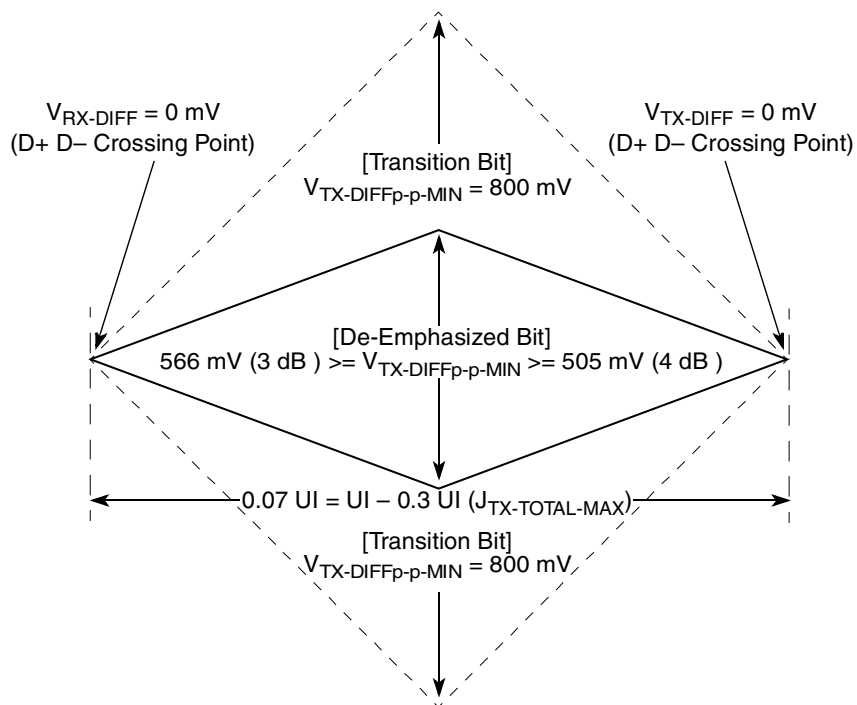
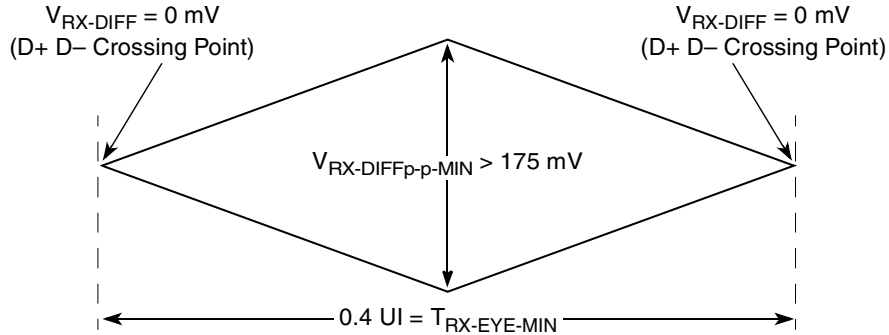
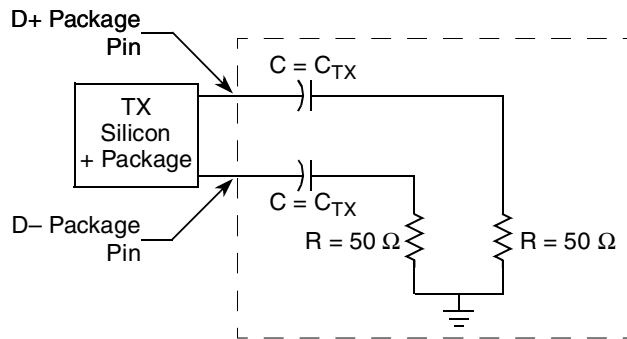

Figure 41. Minimum Transmitter Timing and Voltage Output Compliance Specifications
Figure 42. Minimum Receiver Eye Timing and Voltage Compliance Specification
Figure 43. Compliance Test/Measurement Load
- 2.) Specified at the measurement point into a timing and voltage compliance test load as shown in Figure 43 and measured over any 250 consecutive TX UIs. (Also refer to the transmitter compliance eye diagram shown in Figure 41.)
- 4.) The transmitter input impedance shall result in a differential return loss greater than or equal to 12 dB and a common mode return loss greater than or equal to 6 dB over a frequency range of 50 MHz to 1.25 GHz. This input impedance requirement applies to all valid input levels. The reference impedance for return loss measurements is 50 Ω to ground for both the D+ and D– line (that is, as measured by a vector network analyzer with 50- Ω probes—see Figure 43). Note that the series capacitors C_{TX} is optional for the return loss measurement.
- 5.) Measured between 20–80% at transmitter package pins into a test load as shown in Figure 43 for both $V_{\text{TX-D+}}$ and $V_{\text{TX-D-}}$.
The TX eye diagram in Figure 41 is specified using the passive compliance/test measurement load (see Figure 43) in place of any real PCI Express interconnect + RX component.
- 2.) Specified at the measurement point and measured over any 250 consecutive UIs. The test load in Figure 43 should be used as the RX device when taking measurements (also refer to the receiver compliance eye diagram shown in Figure 42). If the clocks to the RX and TX are not derived from the same reference clock, the TX UI recovered from 3500 consecutive UI must be used as a reference for the eye diagram.
- 4.) The receiver input impedance shall result in a differential return loss greater than or equal to 15 dB with the D+ line biased to 300 mV and the D– line biased to –300 mV and a common mode return loss greater than or equal to 6 dB (no bias required) over a frequency range of 50 MHz to 1.25 GHz. This input impedance requirement applies to all valid input levels. The reference impedance for return loss measurements for is 50 Ω to ground for both the D+ and D– line (that is, as measured by a Vector Network Analyzer with 50-Ω probes—see Figure 43). Note that the series capacitors CTX is optional for the return loss measurement.
The RX eye diagram in Figure 42 is specified using the passive compliance/test measurement load (see Figure 43) in place of any real PCI Express RX component.
Note: In general, the minimum receiver eye diagram measured with the compliance/test measurement load (see Figure 43) will be larger than the minimum receiver eye diagram measured over a range of systems at the input receiver of any real PCI Express component. The degraded eye diagram at the input receiver is due to traces internal to the package as well as silicon parasitic characteristics which cause the real PCI Express component to vary in impedance from the compliance/test measurement load. The input receiver eye diagram is implementation specific and is not specified. RX component designer should provide additional margin to adequately compensate for the degraded minimum receiver eye diagram (shown in Figure 42) expected at the input receiver based on some adequate combination of system simulations and the return loss measured looking into the RX package and silicon. The RX eye diagram must be aligned in time using the jitter median to locate the center of the eye diagram.
The reference impedance for return loss measurements is $50\ \Omega$ to ground for both the D+ and D- line (i.e., as measured by a vector network analyzer with $50\text{-}\Omega$ probes—see Figure 43). Note that the series capacitors, CTX, are optional for the return loss measurement.
The AC timing and voltage parameters must be verified at the measurement point, as specified within 0.2 inches of the package pins, into a test/measurement load shown in Figure 43.